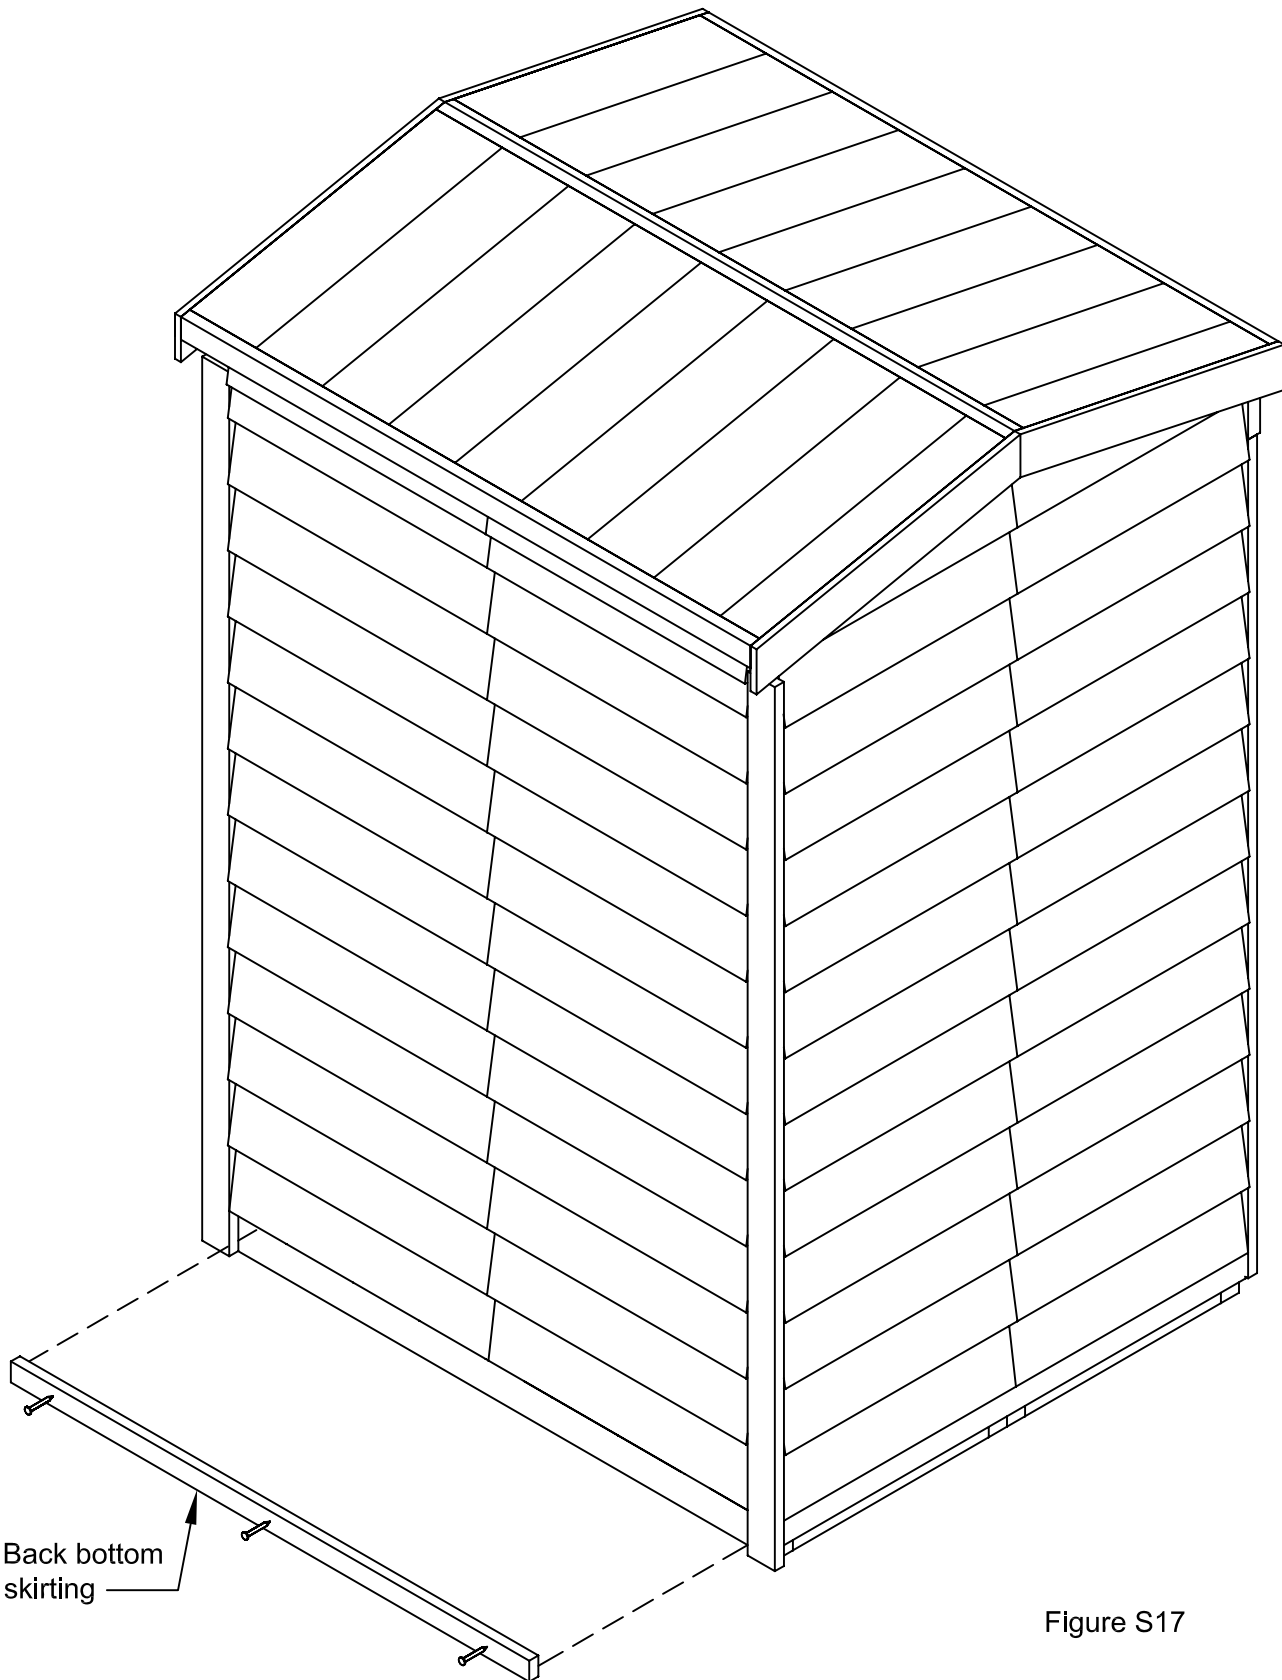

Figure S17
18. Complete the base of the structure with the back bottom skirting, shown in Figure S17. Use 3 - 1  $\frac{3}{4}$ " finishing nails.